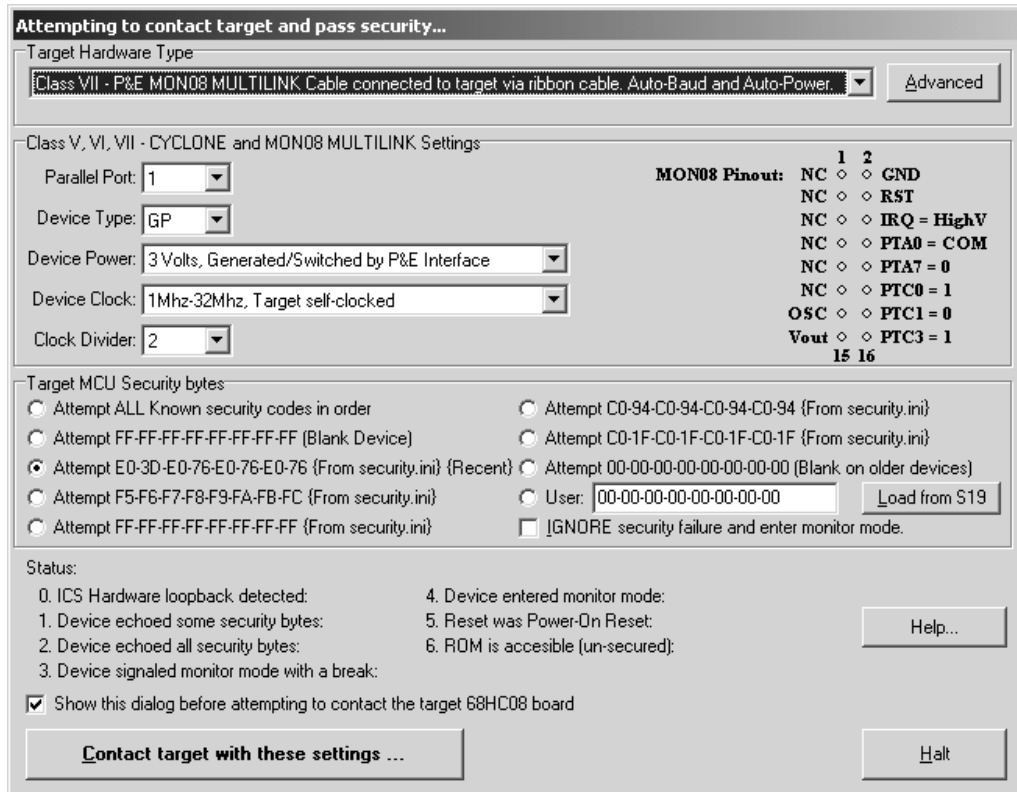

Figure 4-40: Class V, VI, VII Target And Security Dialog
**Note:** If you select Class V, VI, or VII in the Target Hardware Type selection box, the second section of the Target Connection and Security Dialog changes. Please refer to **Figure 4-40** and **Section 4.3.1 Target Hardware Type** for a depiction and description.